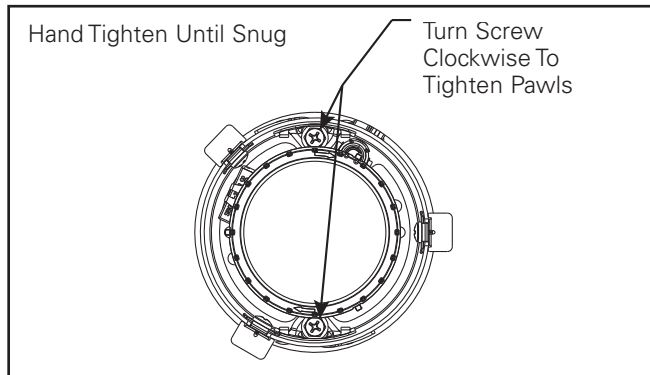

Figure 5
6. Turn both pawl screws clockwise until they fit are holding the module into the ceiling (see figure 5). Do NOT over torque the screws. HAND-TIGHTEN ONLY.